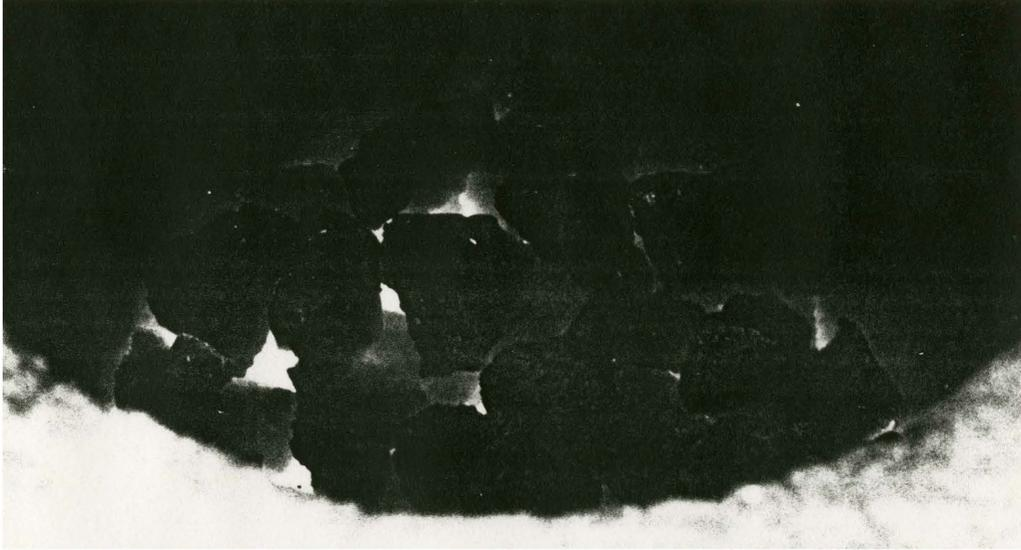

Fig. 11. First iron charge.
- B. Add first 100# iron charge, level out, see Fig. 11.